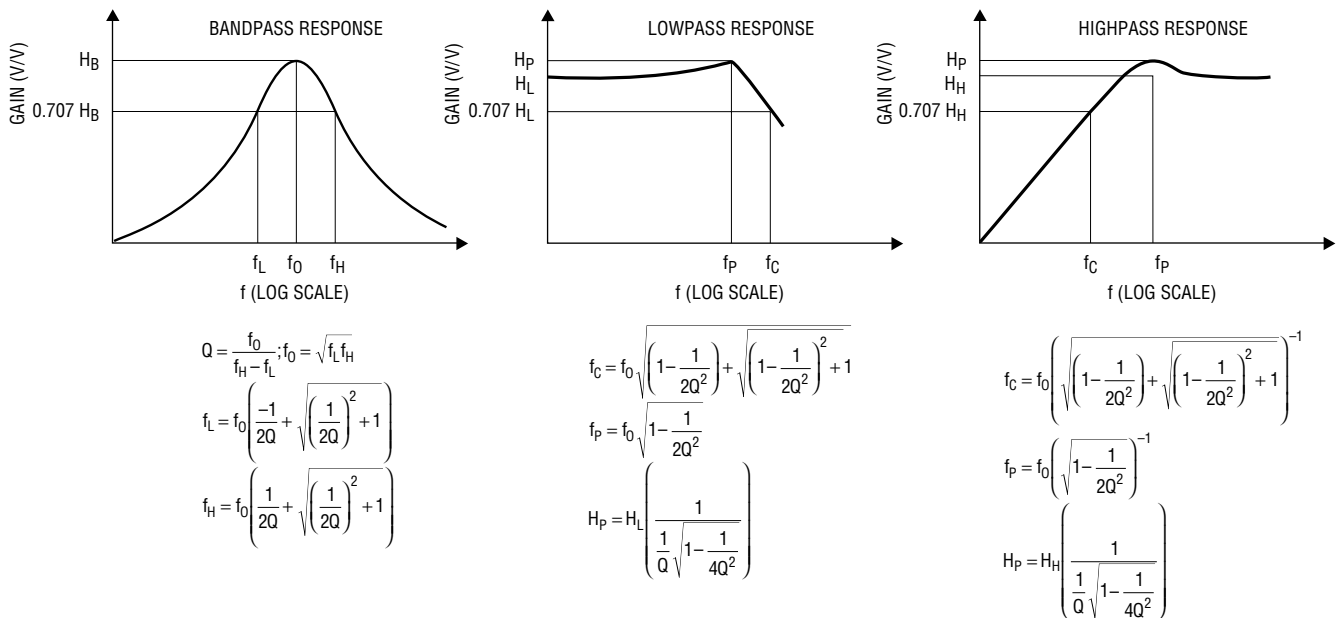

Figure 4. Characteristics of Standard 2nd Order Filter Responses
Figure 4 shows further details of 2nd order lowpass, bandpass and highpass responses. Configurations to obtain these responses appear in the next three sections.
at frequency f_0 , and for $Q > 0.707$, a gain peak occurs at a frequency below f_0 , as shown in Figure 4.
$\omega_0 = 2\pi f_0$ and Q are set by R_2 and R_Q as described previously in Setting f_0 and Q . When Z_{IN} is a resistor of value R_{IN} , a bandpass response results at the V1 output (Figure 6a) with a gain parameter $H_B = R_Q/R_{IN}$. Alternatively, a capacitor of value C_{IN} gives a bandpass response at the V2 output (Figure 6b), with the same $H_{BP}(s)$ expression, and the gain parameter now $H_B = (R_Q/10k\Omega)(C_{IN}/159pF)$. This transfer function has a gain magnitude of H_B (its peak value) when the frequency equals f_0 and has a phase shift of 180° at that frequency. Q measures the sharpness of the peak (the ratio of f_0 to $-3dB$ bandwidth) in a 2nd order bandpass function, as illustrated in Figure 4.
Parameters $\omega_0 = 2\pi f_0$ and Q are set by R_2 and R_Q as above. The highpass gain parameter is $H_H = C_{IN}/159pF$. For a 2nd order highpass response the gain magnitude at frequency f_0 is QH_H , and approaches H_H at high frequencies ($f \gg f_0$). For $Q > 0.707$, a gain peak occurs at a frequency above f_0 as shown in Figure 4. The transfer function includes a sign inversion.
Standard 2nd order filter algebra, as in Figure 4 and the various transfer-function expressions in this data sheet, uses a center frequency parameter f_0 (or ω_0 , which is $2\pi f_0$). f_0 can also be measured in practical ways, including:
- The geometric mean of the -3.01 dB gain frequencies in a bandpass ($\sqrt{f_L f_H}$ in Figure 4)